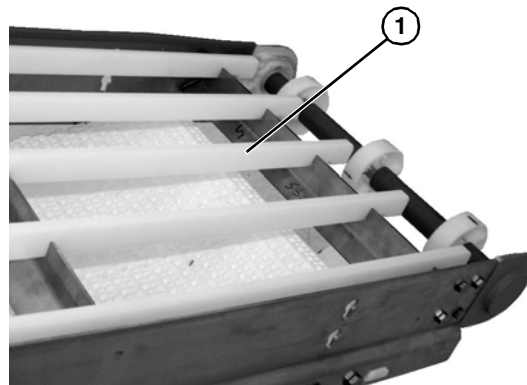

Figure 48
2. Remove worn wear strips (**Figure 48, item 1**) from frame notches.